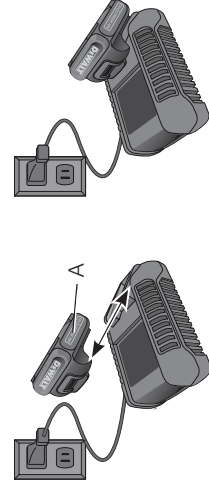

FIG. 1
Charging Procedure (Fig. 1)
2. Insert the battery pack (A) into the charger, as shown in Figure 1, making sure the pack is fully seated in charger. The red (charging) light will blink continuously indicating that the charging process has started.